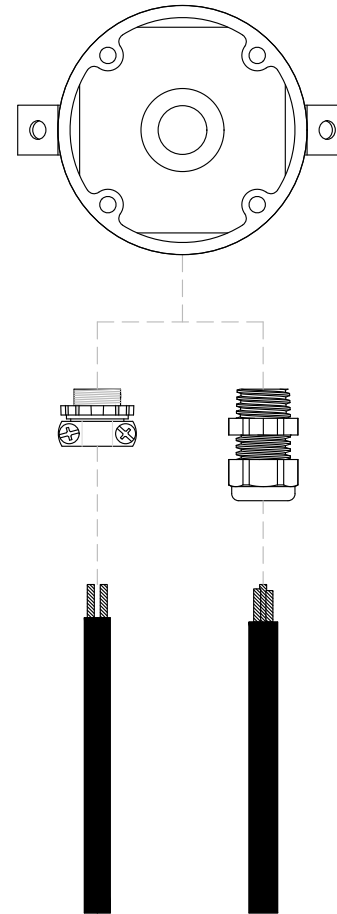

Figure 3
6. Landscape lighting cable: Apply silicone glue to the male threads of a Romex connector (by others) and screw into the Box. Insert landscape lighting cable into the Box through the connector. Apply additional silicone glue around the cable where it passes through the connector. Tighten down the screws on the connector's clamp to secure the cable. (Figure 3)
7. Round weatherproof cord: Apply silicone glue to male threads of a Cordgrip connector (by others) and screw into the Box. Bring round cord through the connector. Use a crescent wrench to tighten the Cordgrip's hex fitting around the cord. (Figure 3)